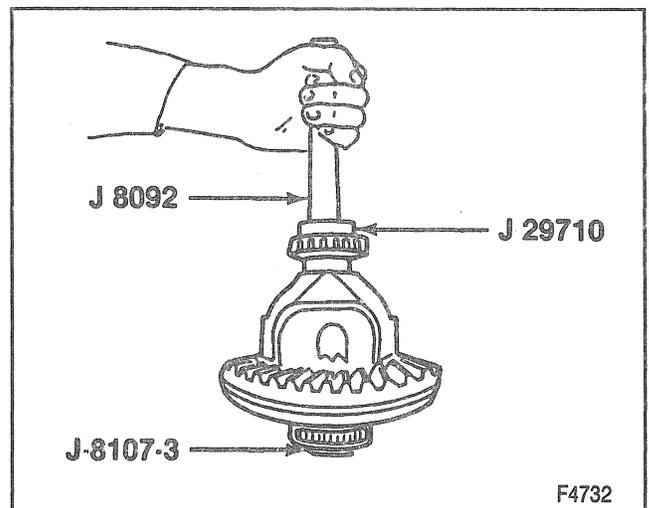

Figure 21—Installing the Side Bearing
- Bolts (26) to 145 N-m (105 lb. ft.).
- 8. Differential side bearings (22) using J 29710, J 8107-3, and J 8092 (Figure 21).
- 9. Differential case (27) to the axle housing. Refer to "Side Bearing Preload Adjustment" in this section.